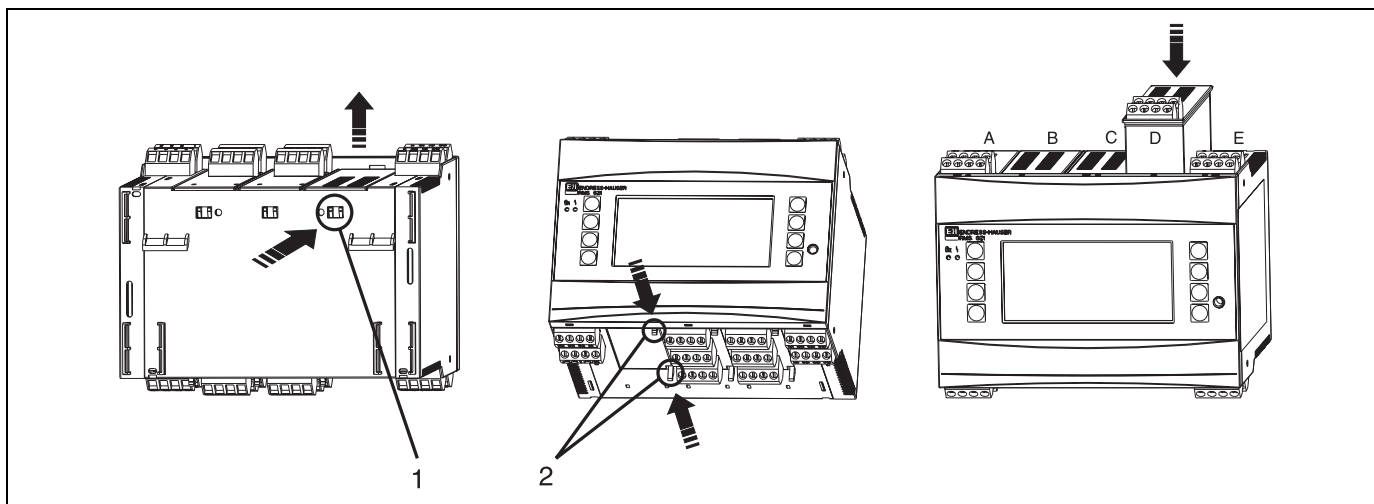

Fig. 4: Installing an extension card (example)
You can equip the device with various extension cards. A maximum of three slots are available in the device for this. The slots for the extension cards are marked with B, C and D (→ Fig. 4) on the device.
2. Remove the blanking cover from the slot (B, C or D) of the basic unit by pressing together the catches on the bottom of the Energy Manager (see Fig. 4, item 2), while at the same time pressing in the catch on the rear of the housing (e.g. with a screwdriver) (see Fig. 4, item 1). Now you can pull the blanking cover up out of the basic unit.
3. Insert the extension card into the basic unit from above. The extension card is not correctly installed until the catches on the bottom and rear of the device (see Fig. 4, items 1 and 2) lock into place. Ensure that the input terminals of the extension card are on top and the connection terminals are pointing to the front, as with the basic unit.